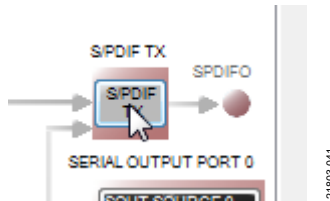

Figure 42. Configuring the S/PDIF Transmitter Routing Matrix Register
- To configure the S/PDIF transmitter signal routing, begin by clicking the **S/PDIF TX** box (see Figure 42).